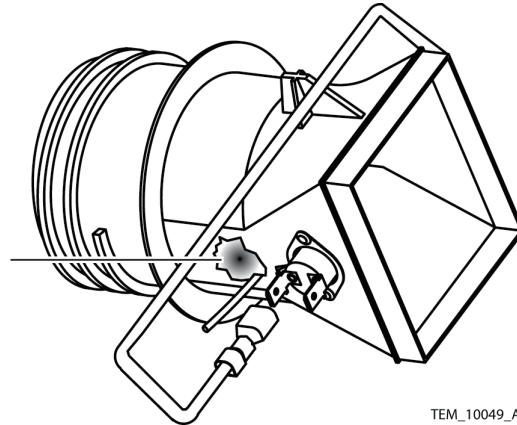

Figure 56. Thermistor Silicone
2. Remove the silicone RTV from the thermistor connection on the duct adapter assembly. See Figure 56.
13. Apply a small amount of silicone RTV to the thermistor rivet cap and the adapter housing. See Figure 56.